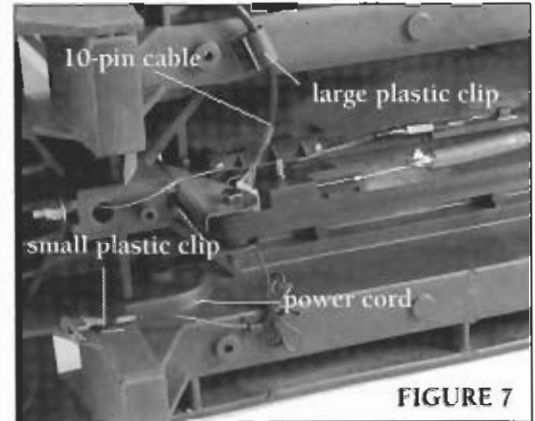

FIGURE 7
1. Use the two small plastic clips to secure the power cord to the underside of the skier. Place one clip near the motor and the other on the inside right leg of the skier (Figure 7).
3. Use one large plastic clip to secure the 10-pin cable to the base of the skier. Attach the clip to the base above the motor (Figure 7).